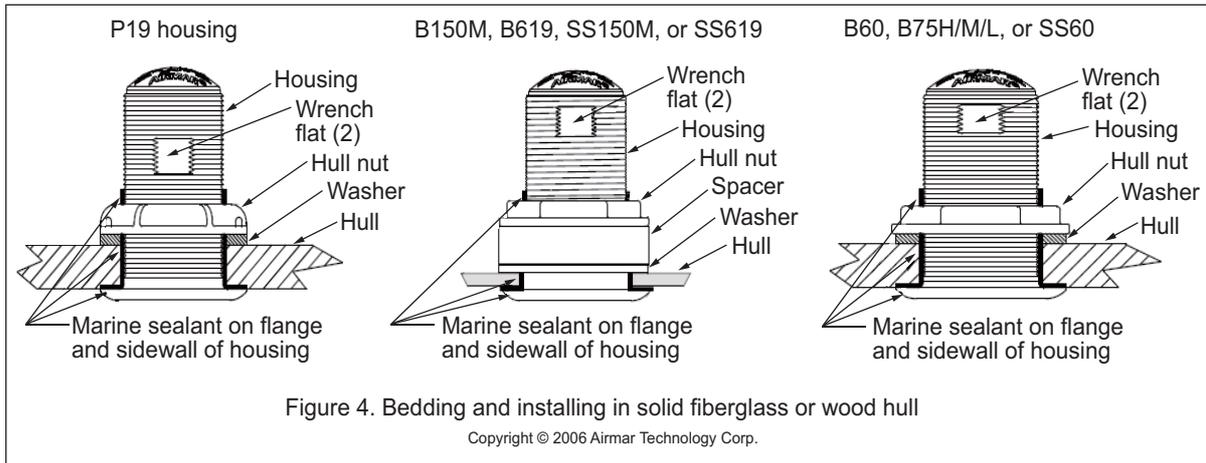

Figure 4. Bedding and installing in solid fiberglass or wood hull
Apply a 2 mm (1/16") thick layer of marine sealant around the flange of the housing that contacts the hull and up the sidewall of the housing (see Figure 4 or 5). The sealant must extend 6 mm (1/4") higher than the combined thickness of the hull, washer(s), hull nut, and any spacer. This will ensure there is marine sealant in the threads to seal the hull and to hold the hull nut securely in place.
2. Slide the washer onto the housing (see Figure 4 or 5).